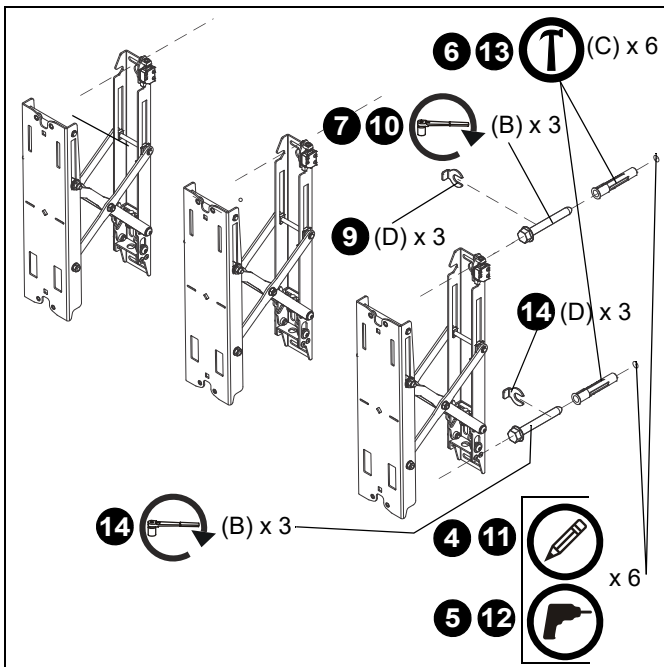

Figure 3
4. Using a level, mark the wall through three upper mounting slots. (See Figure 3)
7. Partially install three 5/16 x 2-1/2" flanged lag bolts (B) into pilot holes but do not tighten to wall.
8. Hang accessory (A), aligning upper mounting slots over lag bolts, and adjust side-to-side for proper location.
9. Place one slotted washer (D) over each flanged lag bolt. (See Figure 3)
10. Tighten lag bolts to secure Fusion pullout (A) to wall at upper mounting slots.
11. Mark the attachment points for the lower mounting slots, making sure the attachment points are located on the studs. (See Figure 3)
12. Drill 3/8" x 3-1/2" (9.5mm x 88.9mm) pilot holes at markings for lower mounting holes. (See Figure 3)
13. Install an anchor (C) into each pilot hole using a hammer, making sure that the anchor is flush with the wall.
14. Use three 5/16 x 2-1/2" flanged lag bolts (B) and three 5/16" slotted washers (D) to attach the accessory to the wall through the lower mounting holes. (See Figure 3)